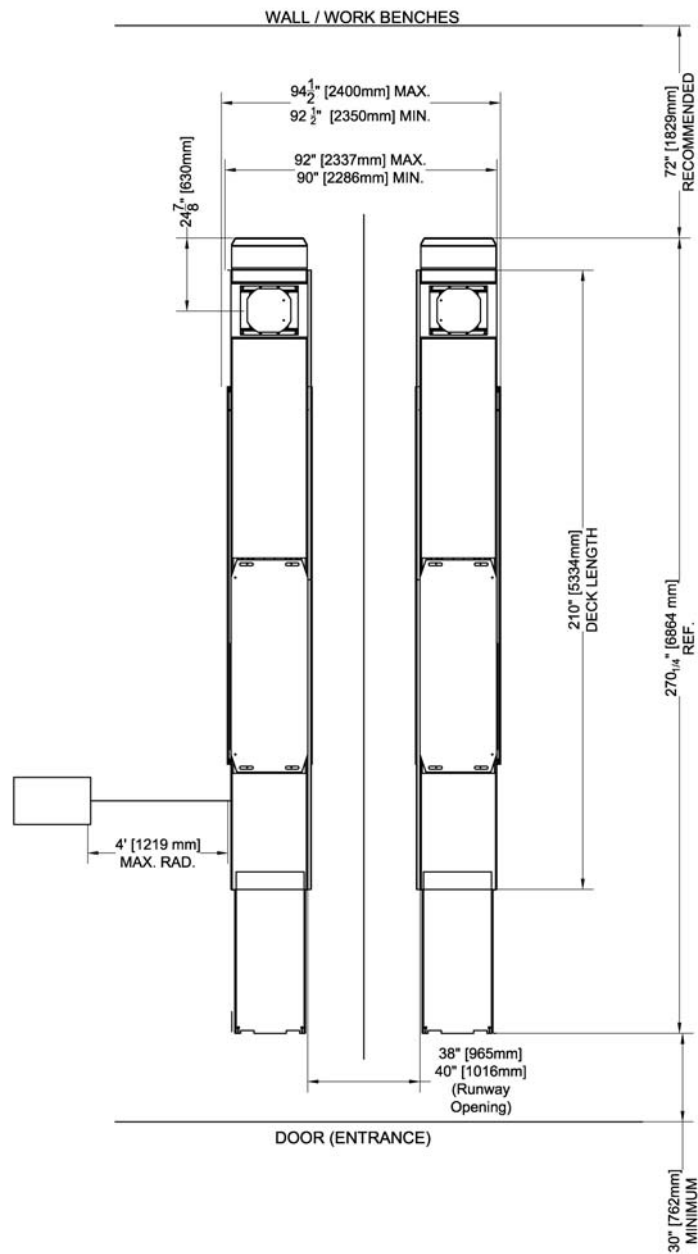

Figure 3 - Typical Bay Layout (Surface Mount)
1. With reference to Figure 3, the installer should locate the most suitable location in the shop for the lift.
5. **RELEASE THE SAFETY LOCKS:** Place a rag or drip pan directly under the secondary cylinder and remove the 90 deg. push lock fittings on the top of the secondary cylinders (see Figure 3). Cap the port using the plugs provided. Raise the lift using the bypass button until the safety locks have disengaged.